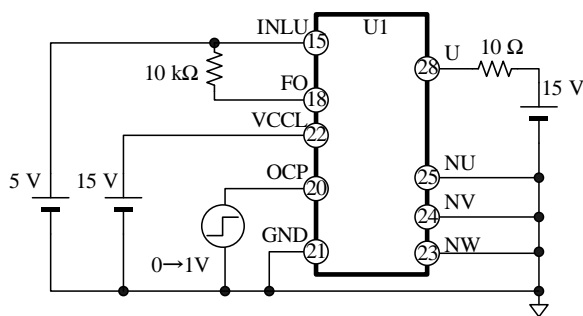
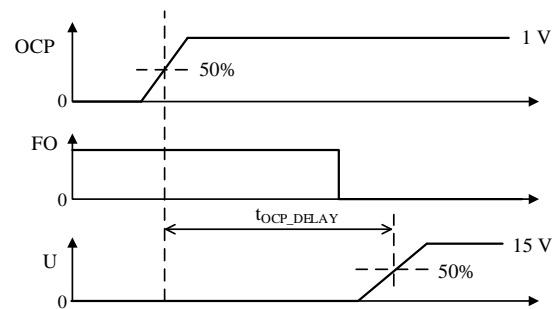

Figure 4-1. Measurement Circuit for OCP Pin Detection Delay Time
Figure 4-2. OCP Pin Detection Delay Time Definition
(2) For the measurement circuit for the OCP Pin Detection Delay Time, see Figure 4-1 (all the pins that are not represented in the figure are open). Figure 4-2 provides the definition of the OCP Pin Detection Delay Time.